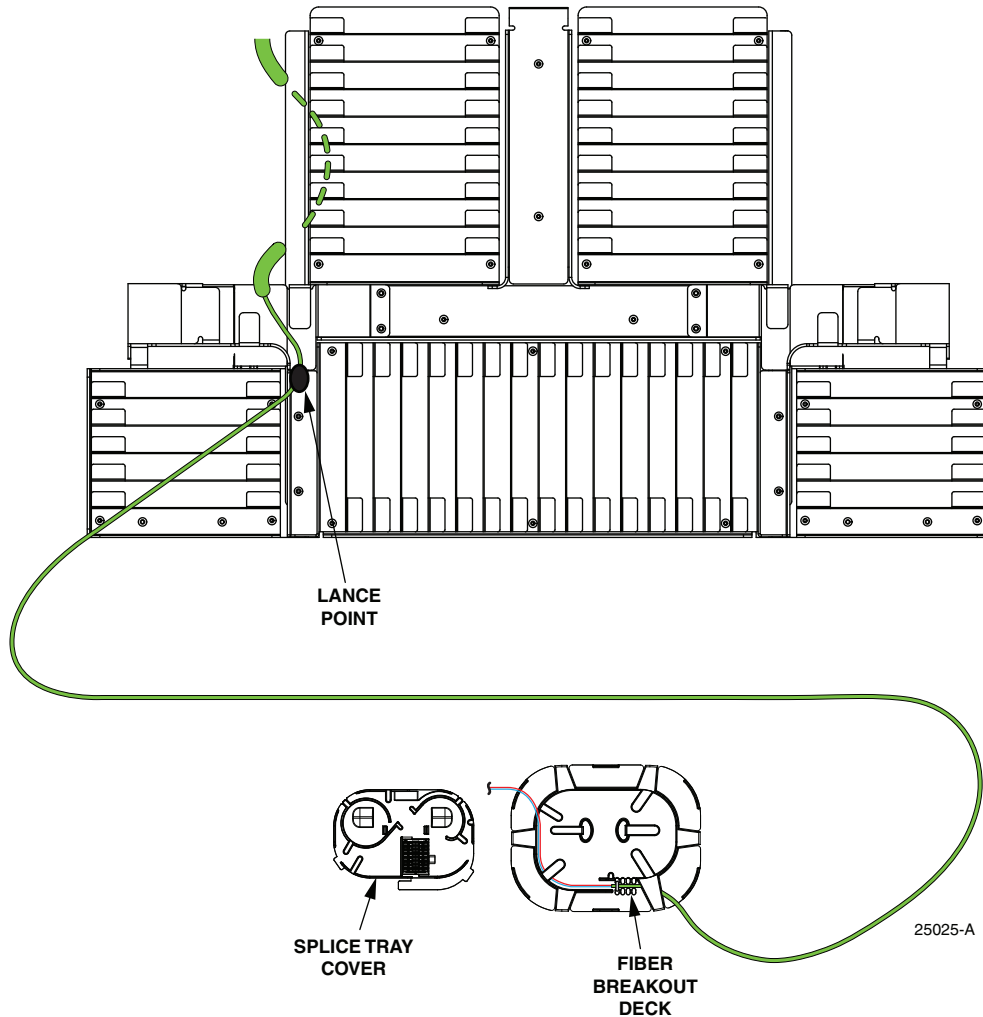

Figure 17. Splice Tray Positioned for Loading
4. Set up for splicing on a flat area in front of the splice chassis. Remove the splice tray cover. Position the cover, base, and cable sub-units as shown in Figure 17.
For this, the splice tray base and cover are positioned somewhere in a work area in front of the splice chassis as shown in Figure 17 on Page 18.